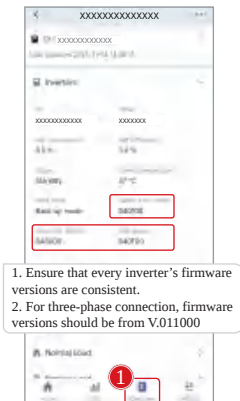

Figure 4-1
3. Ensure the firmware versions of all inverters in the system are consistent.(Figure 4-1)